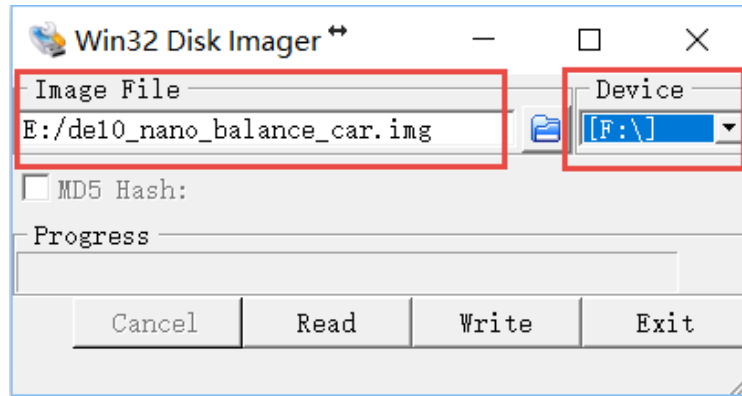

Figure 7-1 Win32DiskImager window
- As shown in **Figure 7-1**, choose *de10_nano_balance_car.img* for Image File.